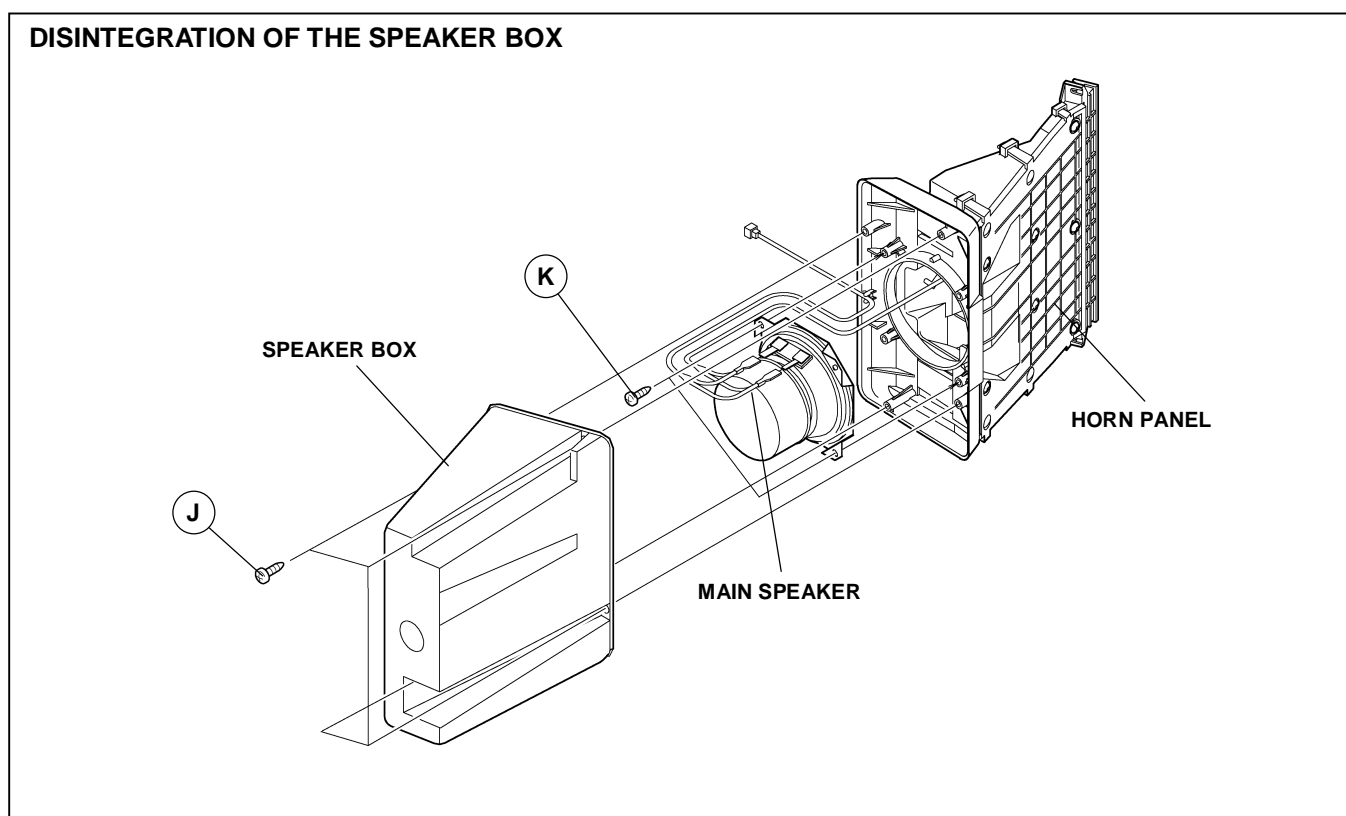

Fig.3
1. As shown in Fig. 3, remove the **4** screws marked **J**, and remove the speaker box.